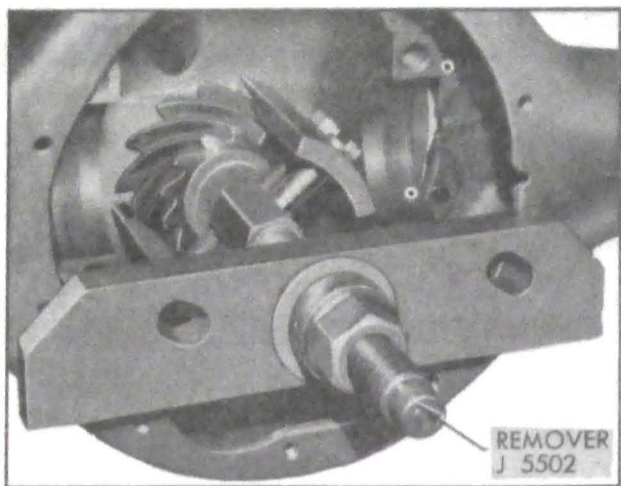

Figure 6-7—Removing Pinion and Shaft
4. Pull pinion and propeller shaft assembly rearward out of third member housing, using Remover and Replacer J 5502. See figure 6-7.